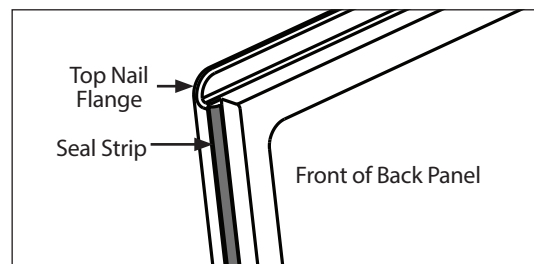

FIGURE 3. Place seal strip on both sides of back panel.
- c. Place seal strip along both sides of back panel removing protective paper as you apply. (Fig. 3)